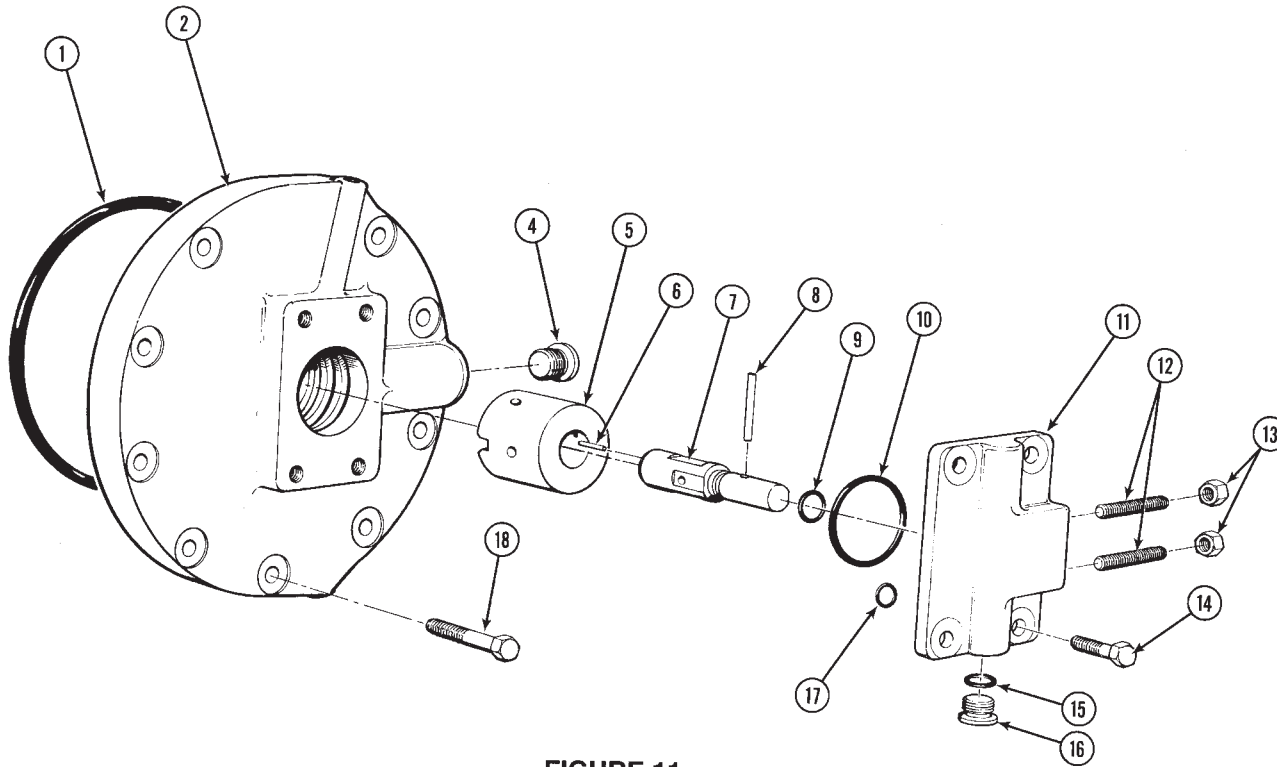

FIGURE 11
(S21-11608, Fig. 11)**
1. Press roll pin (5) into hole of shaft (6).
2. Place sleeve (4) into cover (2) so that slot in sleeve (4) is visible through arcuate of cover (2).
3. Place greased O-ring (7) into groove of shaft (6).
4. Slip shaft (6) into sleeve (4) so that roll pin (5) fits into arcuate of cover (2).
5. Place two greased O-rings (11) and greased O-ring (8) into groove of plate (9).
6. Place plate (9) over shaft (6) and pilot into cover (2). Secure with four screws (14) to cover (2). Tighten to 9 ft. lbs. (12.2 Nm).
7. Place greased O-ring (1) and shipping plugs (3) onto cover (2).
***Steps 8 through 10 for control S21-11608-C, (Fig. 11) only.**
- *8. Through the hole in plate (11), press pin (8) through hole in shaft (7) so that pin (8) extends evenly from both sides of shaft (7) $\pm 1/32"$ (± 0.8 mm).
- *9. Thread plug (15) with O-ring (16) into plate (11). Tighten to 9 ft. lbs. (12.2 Nm).
- *10. Start nuts (13) onto screws (12) and thread screws (12) about five turns into plate (11). Finger tighten.